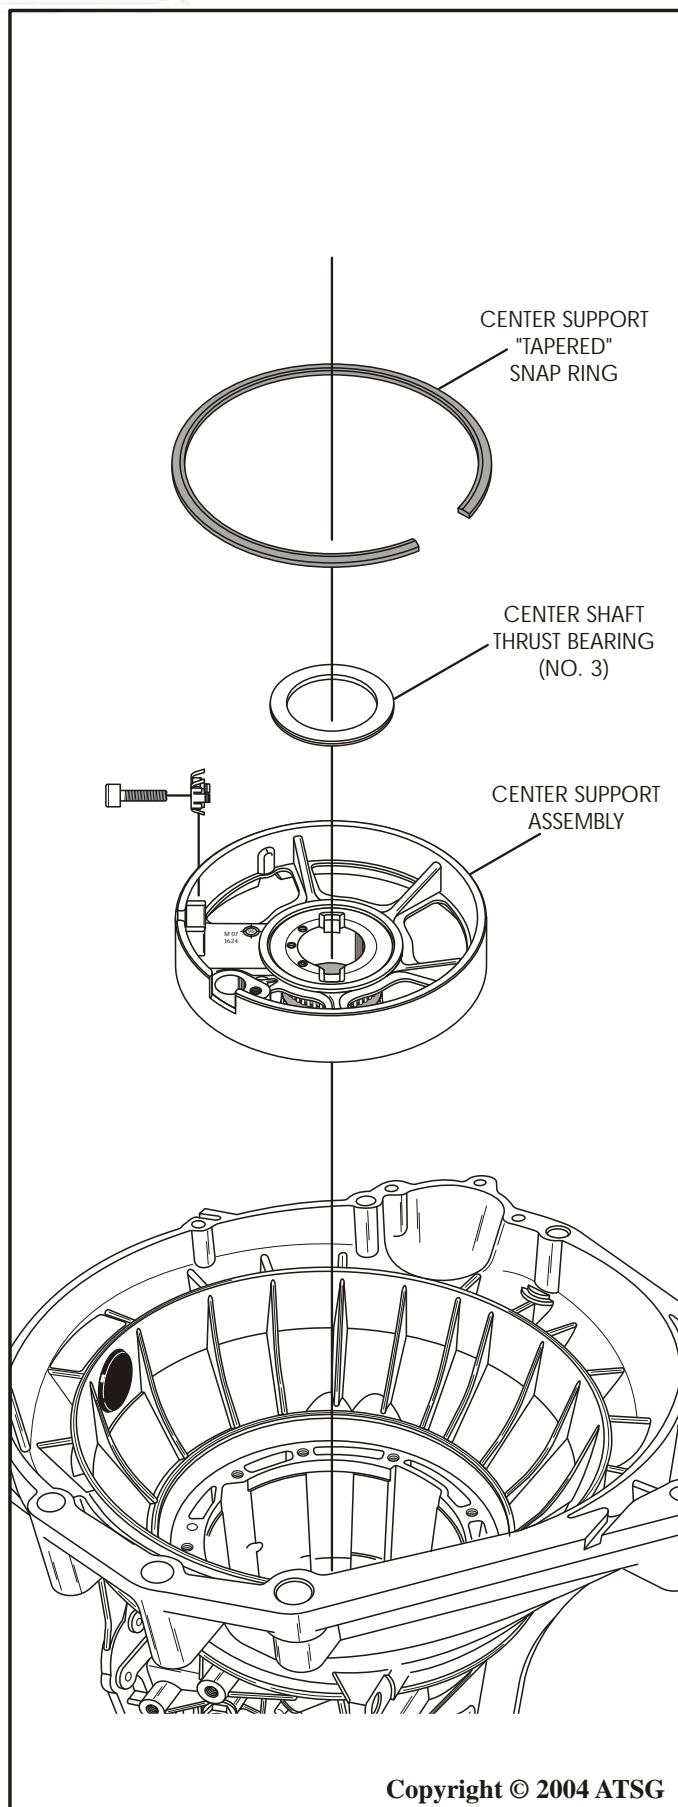

Figure 151
36. Install the center support assembly, ensuring that you align the hole for the center support with the proper passage (See Figure 151).